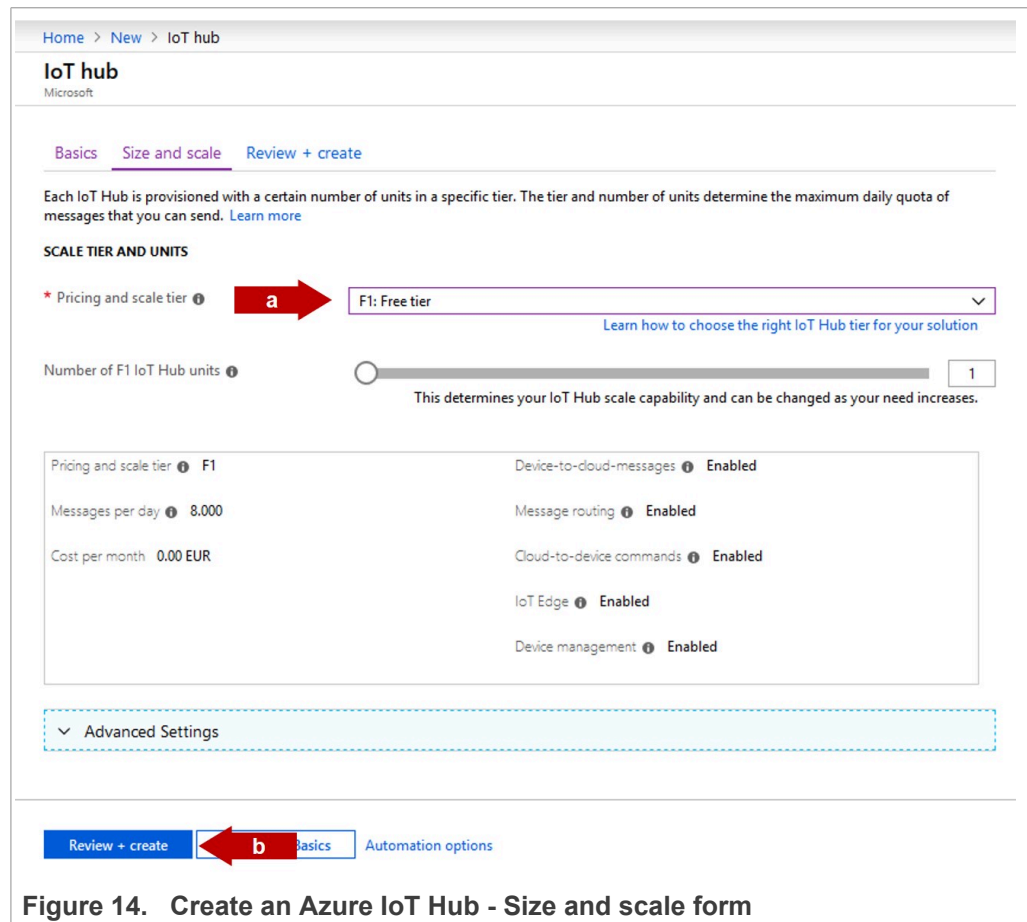

Figure 14. Create an Azure IoT Hub - Size and scale form
- 3. On the **Size and scale** tab, do as shown in Figure 14: